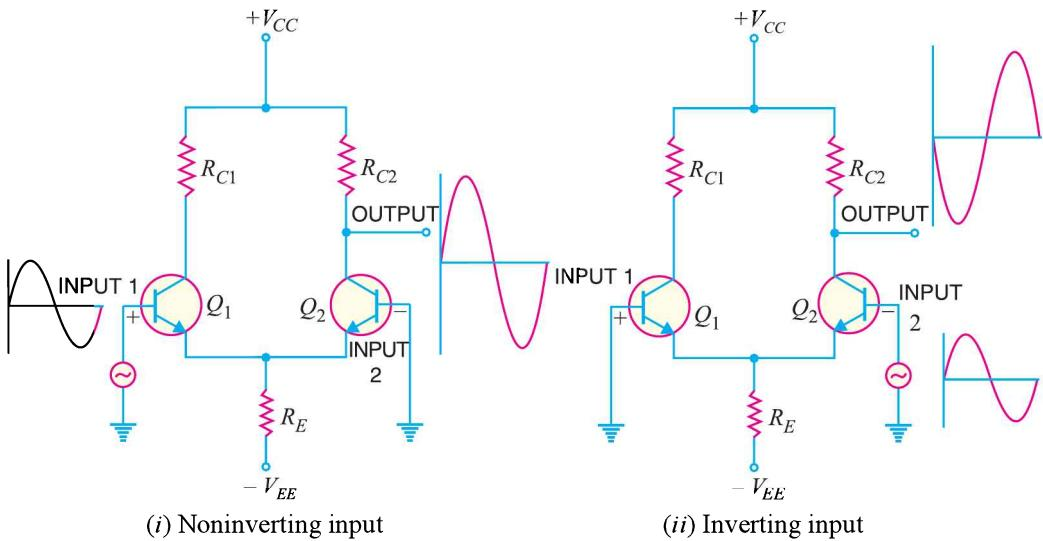

Fig. 25.7
- (b) When only one output terminal is available, the phase of the output of single-ended input DA depends on which input receives the input signal. This is illustrated in Fig. 25.7.
When signal applied to the input of *DA* produces no phase shift in the output, it is called *non-inverting input* [See Fig. 25.7 (i)]. In other words, for noninverting input, the output signal is in phase with the input signal. When the signal applied to the input of *DA* produces 180° phase shift, it is called *inverting input* [See Fig. 25.7 (ii)]. In other words, for inverting input, the output signal is 180° out of phase with the input signal. Since inverting input provides 180° phase shift, it is often identified with $-$ sign. The noninverting input is then represented by $+$ *sign. It may be noted that terms noninverting input and inverting input are meaningful when only one output terminal of *DA* is available.
* Note that in Fig. 25.7, the noninverting input terminal is given the +ve sign while the inverting input terminal is given the -ve sign.